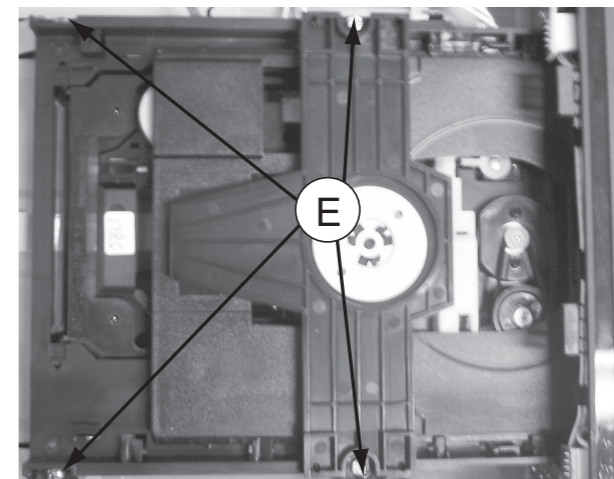

Figure 8
- 1) Loosen 4 screws "E" at the DVD Module as shown in figure 8.